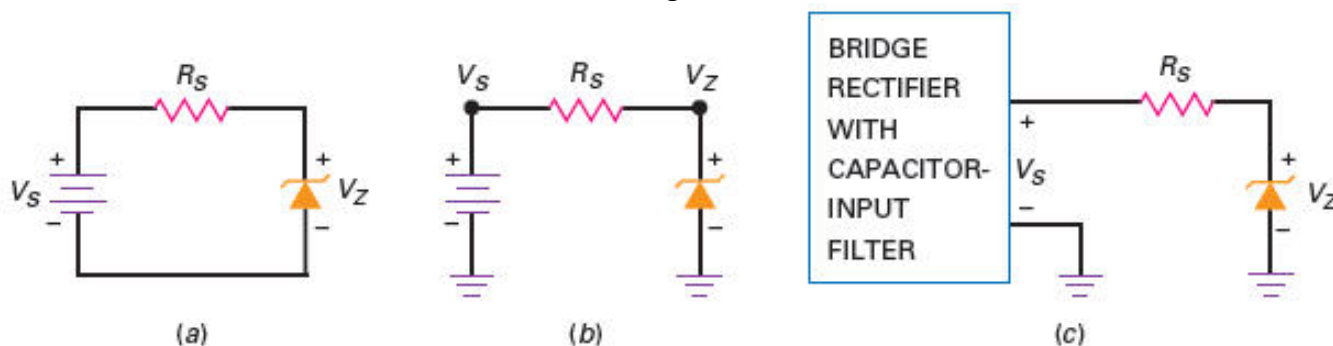

Figure-2 Zener regulator. (a) Basic circuit; (b) same circuit with grounds; (c) power supply drives regulator
- In Figure-2, the voltage across the series or current-limiting resistor equals the difference between the source voltage and the Zener voltage. Therefore, the current through the resistor is:
- Once you have the value of series current, you also have the value of Zener current. This is because Figure-2 is a series circuit. Note that I_S must be less than I_{ZM} .